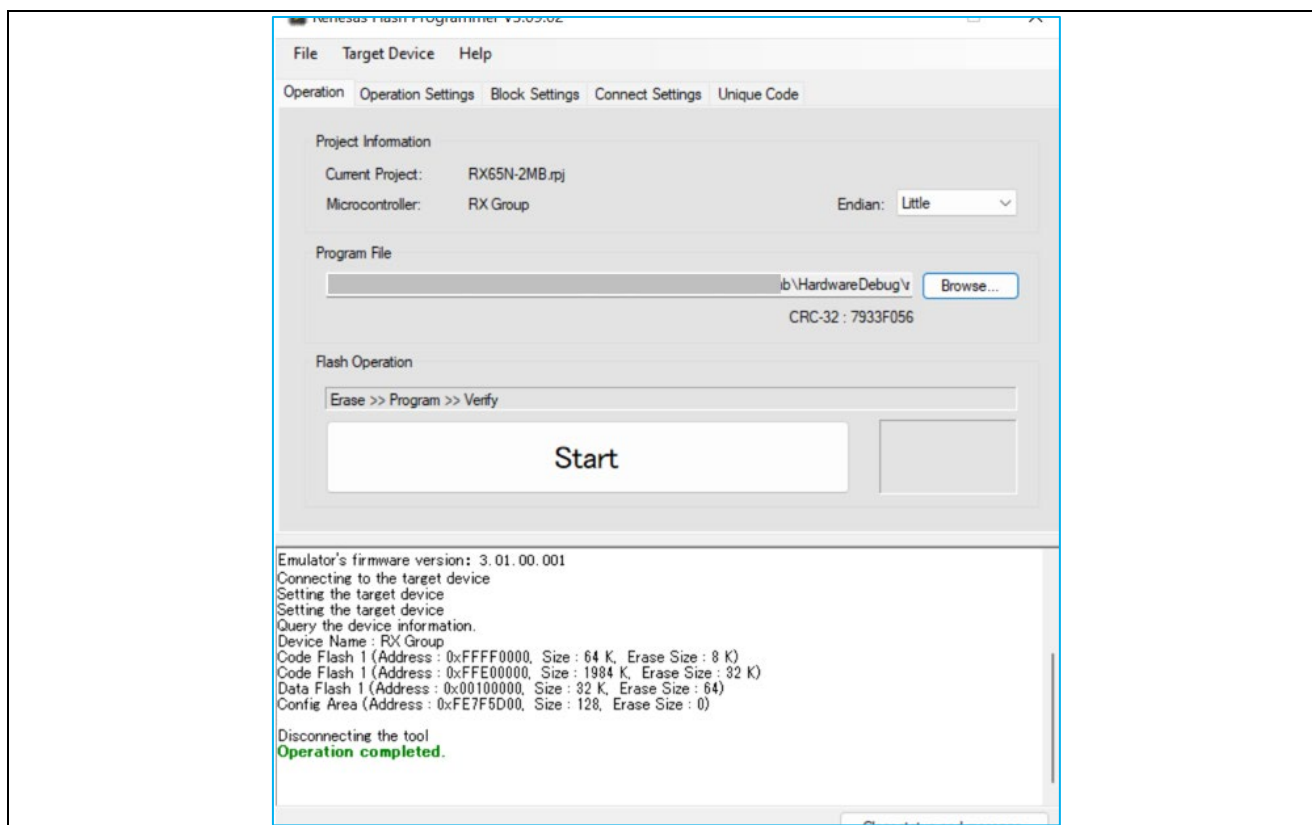

Figure 3. The Main Window of Renesas Flash Programmer After Creating a New Project
7. Verify the message **Operation Complete** is printed in the main window. Under Program File, click Browse to choose to the program file that will be flashed onto the board (Figure 3). Using the file explorer window, navigate to the example project's **ryz014a_rx65n_2mb.hex** file and click Open.